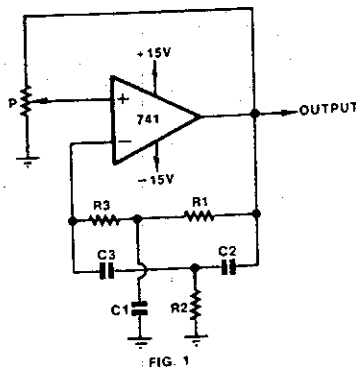
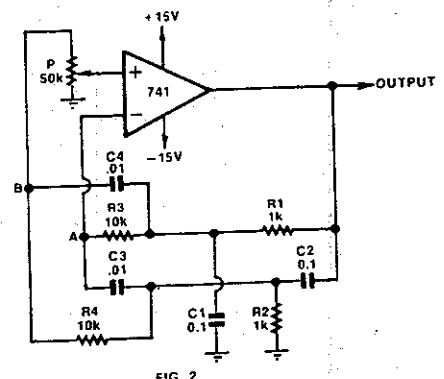

FIG. 1
FIG. 2
In a common form of RC oscillator as shown in figure 1, a parallel-T network in a negative feedback loop nulls at one frequency, allowing positive feedback via the potentiometer to sustain oscillation at that frequency. The frequency stability is worse and the harmonic distortion is higher than that of a resonant (inductance/capacitance) oscillator because the bandwidth of an RC network is greater than the bandwidth of an LC circuit.
Unfortunately, inductors are usually large and expensive but a suitably proportioned parallel-T network can, with the addition of an extra resistor and capacitor, produce two outputs, one at point A (figure 2), a voltage which nulls at one frequency and the second at point B, a voltage which peaks, and is in phase with the network input voltage, at the same frequency. Positive feedback can now be taken from point B, giving a measure of frequency discrimination to the positive feedback loop and narrowing the overall oscillator bandwidth.
The frequency stability for a 10% supply voltage change was 0.17% for figure 1 and .011% for figure 2. Harmonic distortion was measured at 2.2% and 0.55%, respectively.
**Dipole Dimensions.** Typical dimensions for the crossed, two-band dipole configuration are given in Fig. 1 for 40-meter and 80-meter phone band operation. It should be mentioned that the basic configuration can be used for either inverted-vee or straight horizontal dipole construction. Obviously, for strictly horizontal dipole construction, additional masts are required. The advantage of the inverted dipole arrangement is that the antenna ends are at a low height and can be held by short poles or fence posts. An additional advantage of the inverted dipole construction is that it is easy to trim antenna length to obtain a precise resonant frequency because each element can be let down conveniently.
Fig. 1. This is a schematic representation of the 80 and 40 meter dipoles. They intersect at 90 degree angles, but the angle at which the low ends of the dipoles intersect the ground plane is not critical in this application.
**Two-Section, Tri-Band Antenna.** The author constructed the antenna of Fig. 2 for three-band phone operation. Basically it is a 20-meter and 40-meter configuration of crossed, inverted-vee dipoles with a facility for adding length to the 40-meter antenna to obtain 15-meter phone segment resonance. The 20-meter quarter-wave elements are 16.5-feet in length. Resonance was at 14.2 megaHertz. The 40-meter inverted dipole was first cut for 32-feet, 6-inches. However, the resonant frequency was a bit low. Consequently three inches were cut off each end, and resonance was then found to be near 7.2 MHz.
Fig. 2. This the "convertible model." With the addition of 13-inches at either end of the 40 meter antenna, it becomes possible to resonate the antenna on 15 meters as well. You can use this technique with a horizontal dipole just as well.